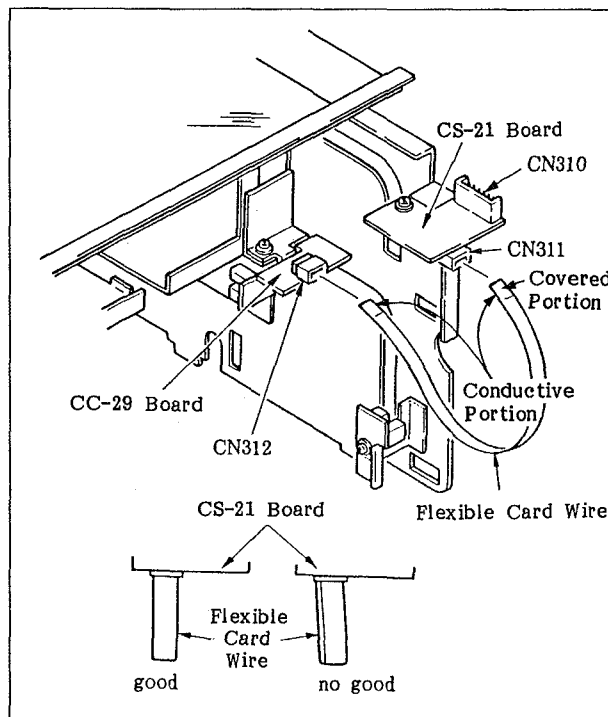

Fig. 6-12 Connecting the Flexible Card Wire
1. Pull the connectors CN311 and CN312 that are connected with the CS-21 and CC-29 boards respectively toward you. Then push the flexible card wire straight into the connectors. After that, insert the connectors into the prescribed position. (Fig. 6-12)
**Note 2:** There are the covered portion and the conductive portion. Properly connect the flexible card wire (4P), as shown in Fig. 6-12.